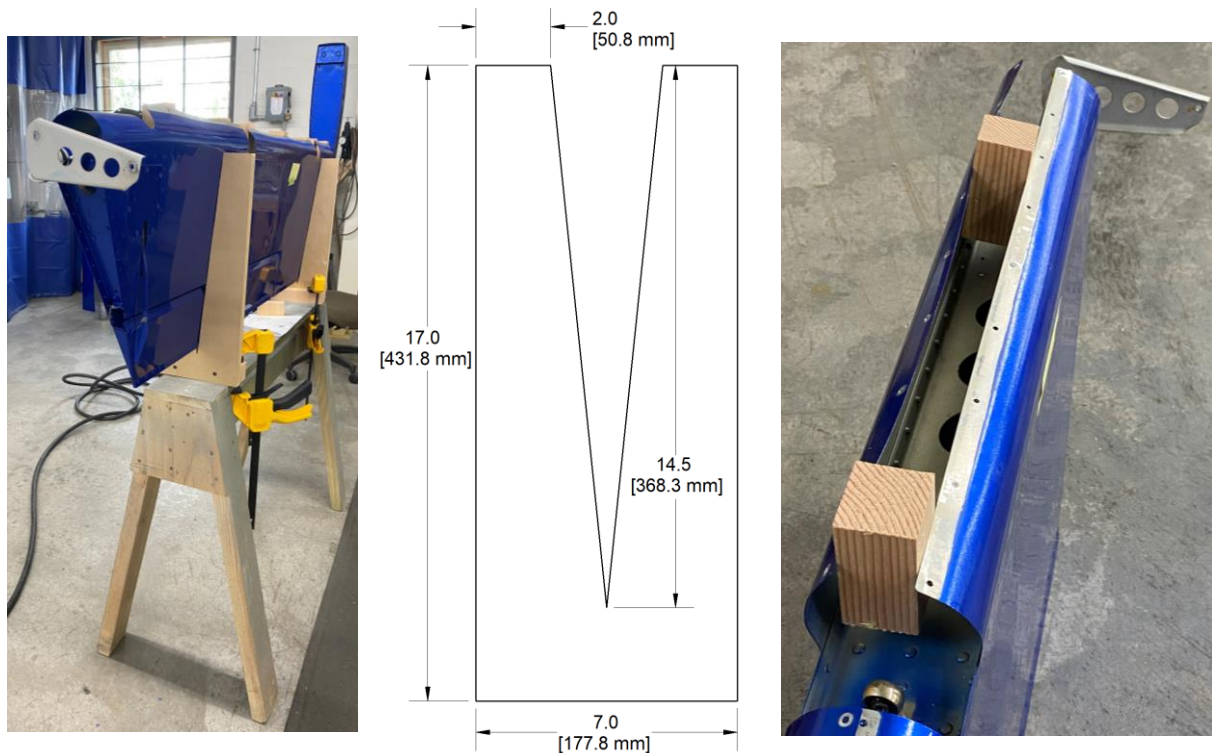

FIGURE 5: ELEVATOR ON V-BLOCK JIG, WITH WOODEN BLOCKS IN LEADING EDGE
Step 5: Remove the elevator from the airplane. See Kit Assembly Instructions Section 11. It is recommended that the elevator be placed in a “V block” jig with the trailing edge down. See Figure 5.